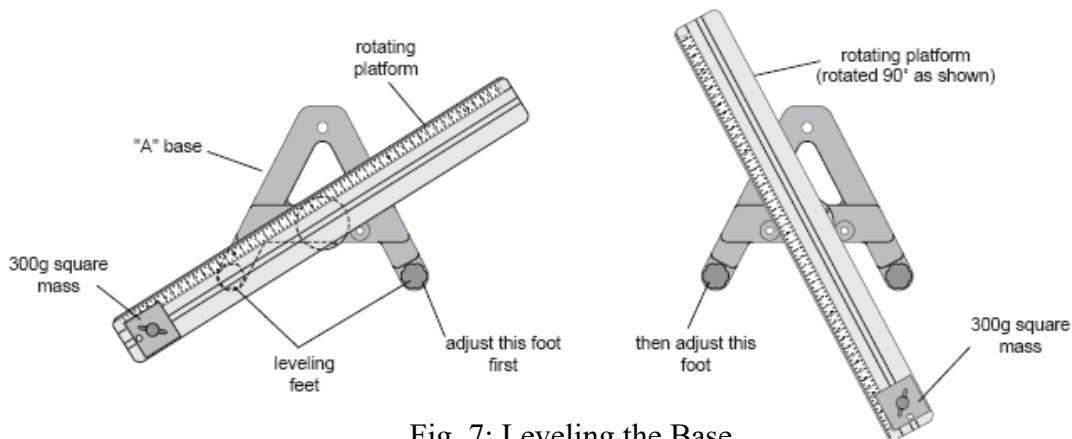

Fig. 7: Leveling the Base
- (b) Adjust the leveling screw on one of the legs of the base until the end of the track with the square mass is aligned over the leveling screw on the other leg of the base. See Figure 7.